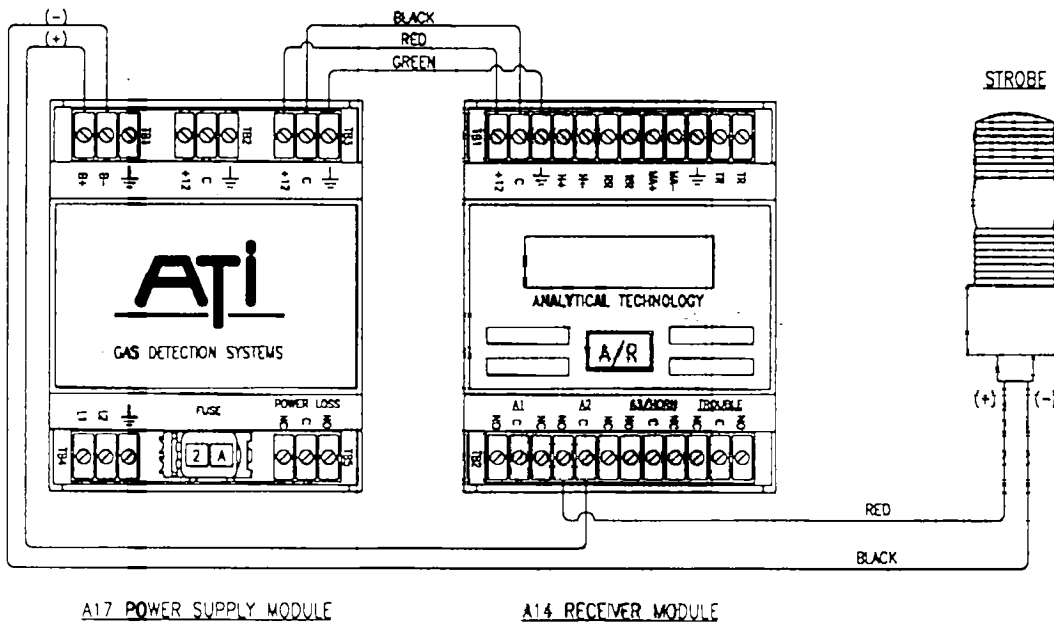

Figure 4-2: External Strobe Light Connections (ATI-0240 Rev-A)
The 12 VDC power to operate the strobe can be picked up from the power supply module which is part of the alarm unit. Figure 4-2 shows the typical wiring diagram for connection of the strobe. The wiring diagram shows the plus side of the 12 VDC supply brought to the common of the alarm contact, one side of the strobe wired to the normally open (NO) contact, and the other side of the strobe connected to the minus side of the 12 VDC supply. Connection of the strobe lamp directly across the alarm relay will not operate the strobe because alarm contacts are unpowered.